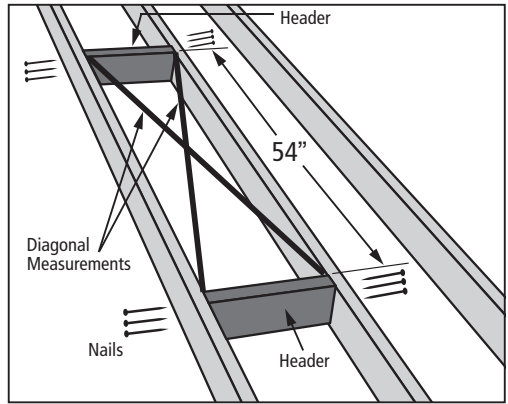

FIGURE 18
Make a rough opening to the size as required in table 1 ensuring that the dimensions of the diagonals of the frame are the same as illustrated in Figure 18.
### A. For Rough opening without joist removal (Figure 18)
- Locate headers in front and rear of the opening as shown in Figure 18.
- Secure using (3) 16d nails into each end of the Header.